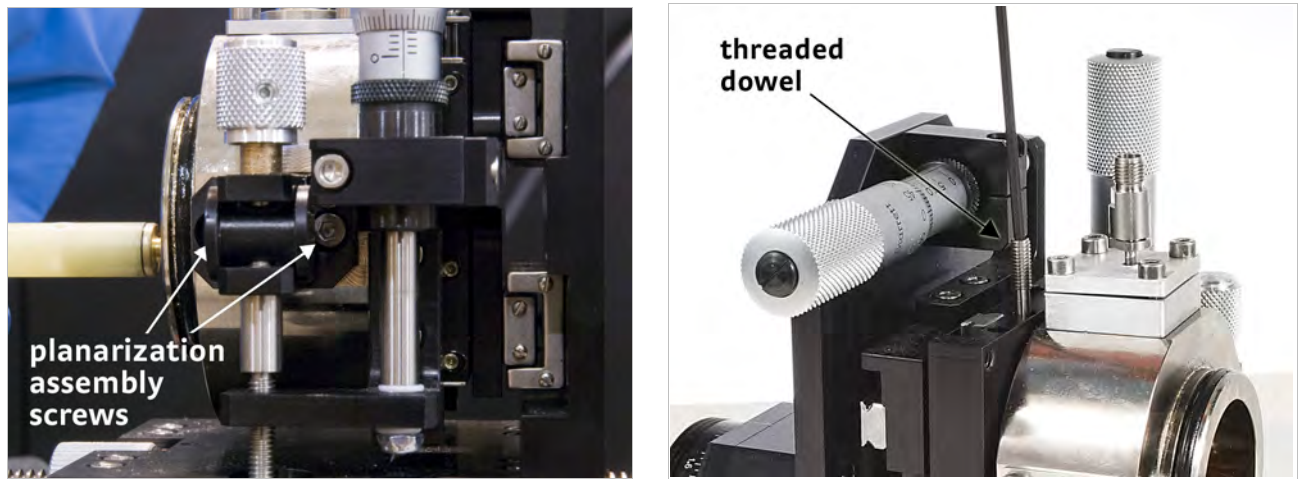

FIGURE 5-9 *Left: Loosen the two screws holding the planarization assembly to the probe arm base; Right: Pull out the threaded dowels*
5. If you have a planarization assembly attached to the probe arm, loosen the two M3 screws that hold the planarization assembly to the arm base. You may need to turn the z-axis micrometer to access the screw that is behind the micrometer (FIGURE 5-9). The planarization assembly will remain attached to the stage.
The probe arm base is loosely secured to the z-axis stage with two stainless steel threaded dowels. Unscrew the threaded dowels, and then pull both dowels out (FIGURE 5-9). Access to the threaded dowels may be to the side of the z-axis stage as shown in FIGURE 5-9 or to the top of the z-axis stage.
2. Insert the two threaded dowels into the z-axis stage (FIGURE 5-9). Tighten until snug.
Access to the threaded dowels may be to the side of the z-axis stage as shown in FIGURE 5-9 (right) or to the top of the z-axis stage.